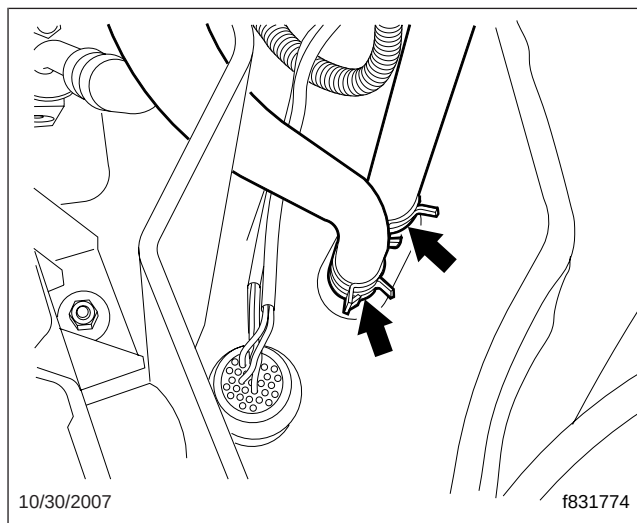

Fig. 6, Coolant Line Clamps
9. Place a drain pan under the vehicle, clamp the coolant lines to prevent excessive drainage from the cooling system, then disconnect the coolant lines from the heater core. Allow the heater core to completely drain into the pan. See Fig. 6.